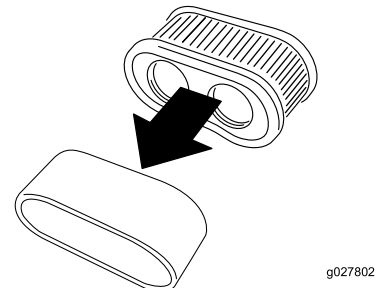

Figure 33
5. Separate the foam and paper elements (Figure 33).